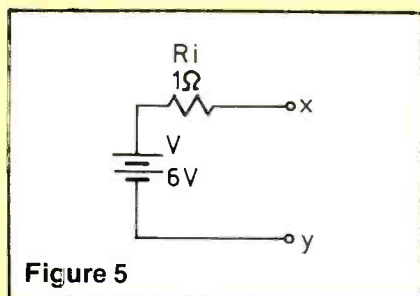

Figure 5
7. The maximum amount of power that can be delivered to a component that is connected between x and y in Figure 5 is